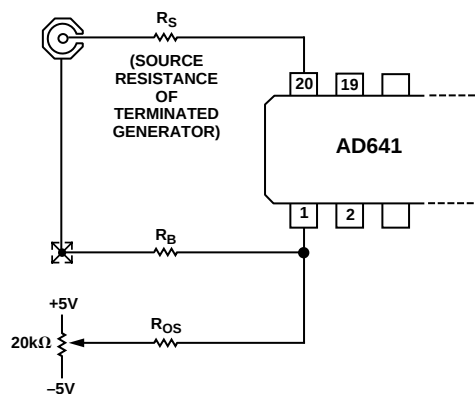

Figure 25. Optional Input Offset Voltage Nulling Circuit; See Text for Component Values
In most applications there will be no need to use any offset adjustment. However, a general offset trimming circuit is shown in Figure 25. R_S is the source resistance of the signal. *Note: 50 Ω rf sources may include a blocking capacitor and have no dc path to ground, or may be transformer coupled and have a near zero resistance to ground.* Determine whether the source resistance is zero, 25 Ω or 50 Ω (with the generator terminated in 50 Ω) to find the correct value of bias compensating resistor, R_B , which should optimally be equal to R_S , unless $R_S = 0$, in which case use $R_B = 5\text{ }\Omega$. The value of R_{OS} should be set to 20,000 R_B to provide a $\pm 250\text{ }\mu\text{V}$ trim range. To null the offset, set the source voltage to zero and use a DVM to observe the logarithmic output voltage. Recall that the LOG OUT current of the AD641 exhibits an *absolute value response* to the input voltage, so the offset potentiometer is adjusted to the point where the logarithmic output "turns around" (reaches a local maximum or minimum).
Cascaded AD641s can be used in dc applications, but input offset voltage will limit the dynamic range. The dc intercept is 6 μ V. *The offset should not be confused with the intercept*, which is found by *extrapolating* the transfer function from its central “log linear” region. This can be understood by referring to Equation (1) and noting that an input offset is simply additive to the value of V_{IN} in the numerator of the logarithmic argument; it does not affect the denominator (or intercept) V_X . In dc coupled applications of wide dynamic range, special precautions must be taken to null the input offset and minimize drift due to input bias offset. It is recommended that the input attenuator be used, providing a practical input range of -74 dBV (± 200 μ V dc) to $+6$ dBV (± 2 V dc) when nulled using the adjustment circuit shown in Figure 25.